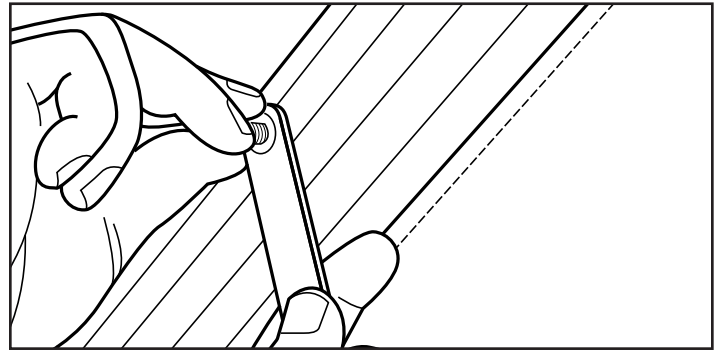

Fig.7
8. Remove the bolt and threaded insert tool (Fig.7). The roll tube will now have a threaded hole.